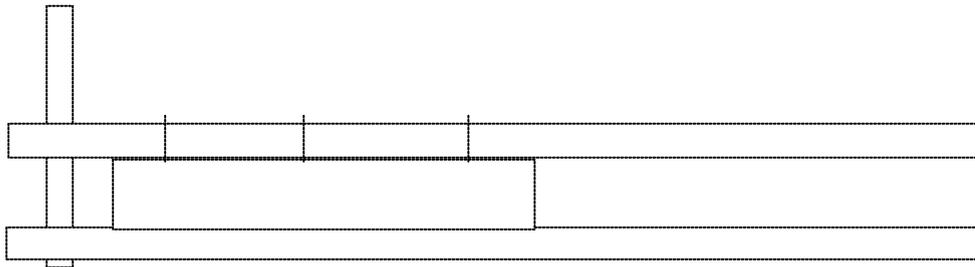

Fig 6
5. Mark up the three pairs of leg struts for drilling as fig 6 and drill. Countersink the outside face of the leg strut holes.
6. Assemble the legs using glue and screws to fix the centre blocks and foot pieces, I found it easier to fit the centre blocks on one leg strut first and then align the other strut before fixing. Placing an 8mm drill through each of the leg strut top holes assists alignment here, fig 6. Ensure the drill is perpendicular to the struts and central before fixing. This will ensure accurate fitting of the assembled leg to the tripod head. The top centre block should be positioned at a distance from the top of the leg struts to give adequate clearance from the tripod head, see fig 5.